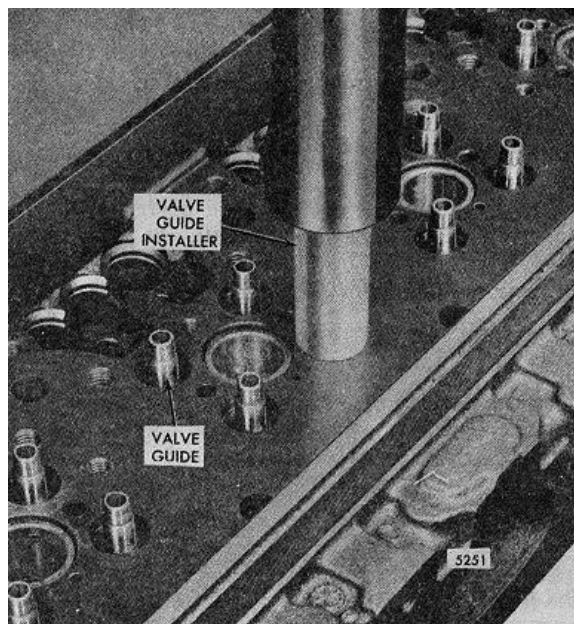

FIG. 9 - Installing Valve Guide
Install used cam followers and push rods in their original locations. Refer to Fig. 9 and proceed as follows:
2. Position the valve guide squarely in the bore in the cylinder head and press the installing tool gently to start the guide in place (Fig. 9). Then press the guide in until the tool contacts the cylinder head.